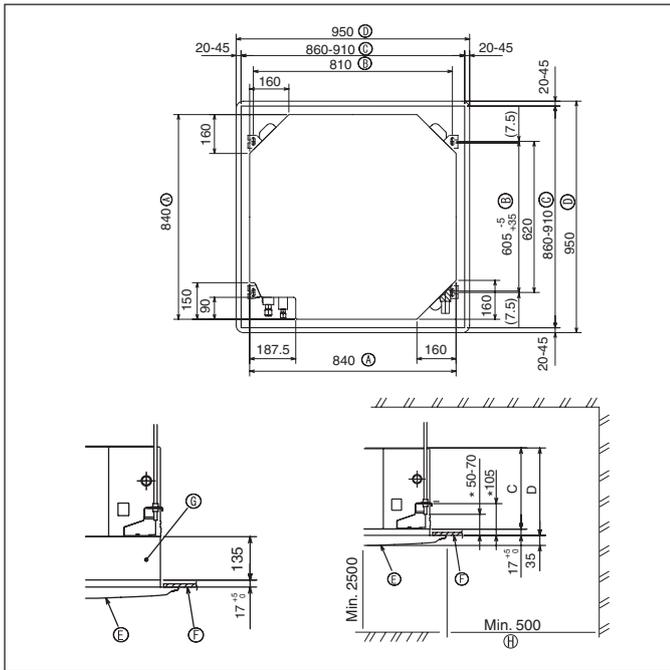

Fig. 2-2
2.2. Ceiling openings and suspension bolt installation locations (Fig. 2-2)
- * The dimensions of ceiling opening can be regulated within the range shown in Fig.2-2; so center the main unit against the opening of ceiling, ensuring that the respective opposite sides on all sides of the clearance between them becomes identical.